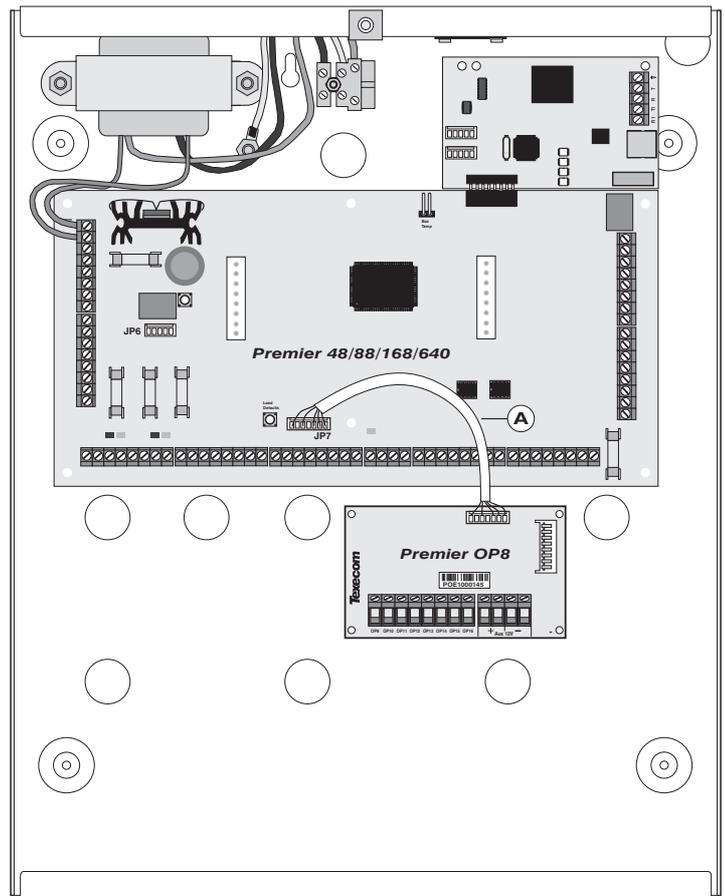

Figure 3. *Premier 48/88/168/640* Installation
- 1) Fix the *Premier OP8* (see Figure 3) to the base of the control panel using four self adhesive feet supplied with the unit.